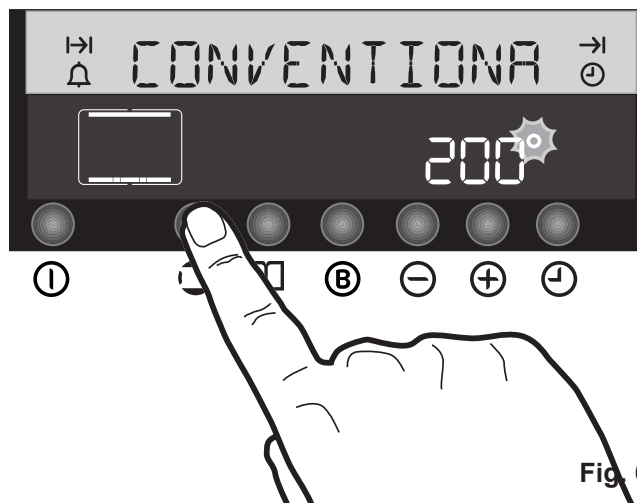

Fig. 6
3. Press the "Cooking Functions" button  twice and select the "Conventional Cooking" function  (Fig. 6).